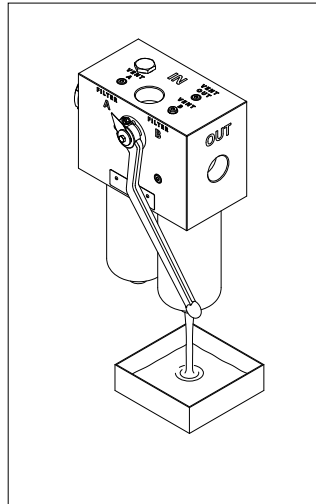

fig. 9
- (Fig. 9) Drain the operating fluid from the bottom of the bowl into the collection vessel